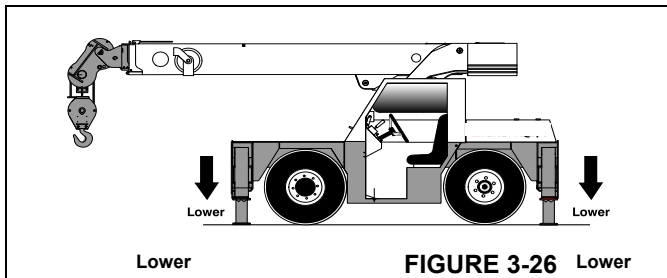

FIGURE 3-26
3. Push the top of the Extend/Retract Switch (2).
4. Press the accelerator pedal to increase the engine speed, which will accelerate the downward movement of the jacks (Figure 3-26). Release the accelerator pedal and the switch when the jacks are fully extended.